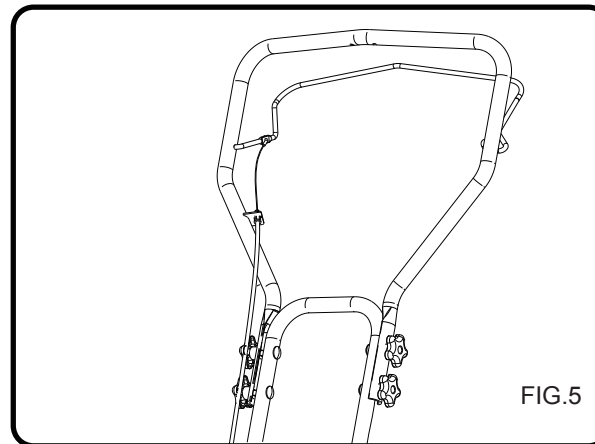

FIG.5
Step 5: Installing The Upper Handle (See Fig.5)